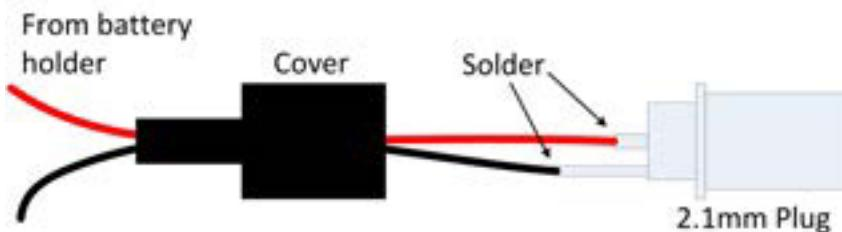

Figure 14-4. Power plug assembly
1. Attach the power plug to the wires of the battery holder. The red wire solders to the center tab of the holder and the black to the outside tab, as shown in Figure 14-4.